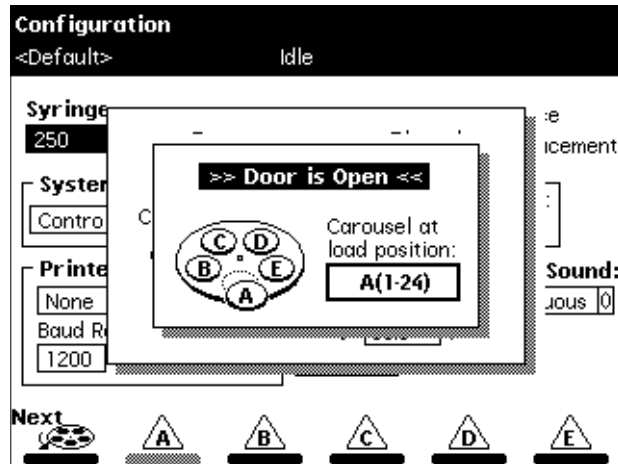

Figure 2-16 Door is Open Dialog Box
1. Open the carousel door. The Door is Open dialog box appears in the screen (Figure 2-16).